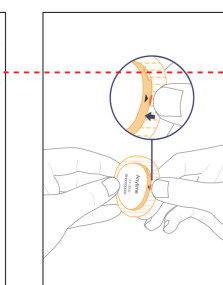

Figure 18 Separate the Transmitter from the Sensor
- The transmitter is reusable. Separate the transmitter from the sensor; push the clip and turn the transmitter to separate, as shown in Figure 18. Clean the transmitter with an alcohol pad and place it in the charger for next use.